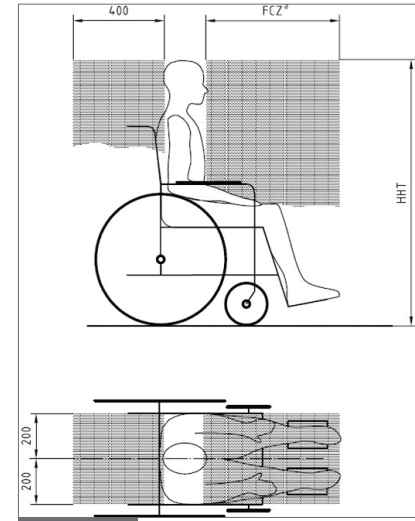

Figure 1
- To minimise the potential for head injuries in an impact, allow a clear space of at least 400mm behind and 650mm, (FCZ, front clear zone), in front of the head of the wheelchair user, (Fig 1). The shoulder belt anchorage must be roof or side-wall anchored at a height level such that the belt webbing passes over the midpoint of the occupant shoulder and at a height that is at or just above the level of the occupants shoulders so as not to impose downward loads on the spine.